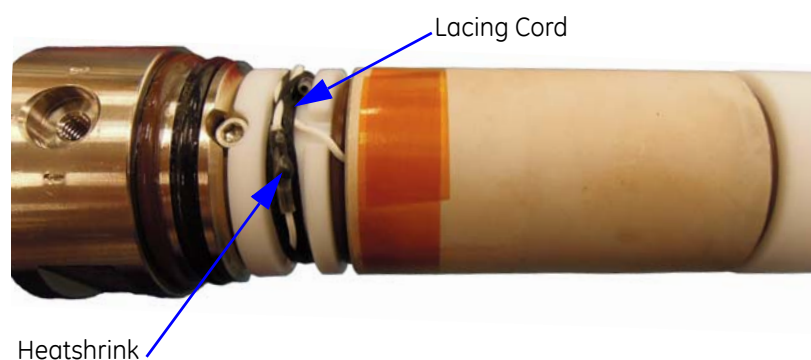

Figure 5-13 Transmitter Crystal Wiring Details
- The Tx Crystal (item 51).
- The three O-Rings (item 46) and two O-Rings (item 45) fitted around the Transmitter Crystal (item 51).
- The Sonde Main Harness (item 53) top connector.
- 13 Disconnect the crystal wiring. Remove any lacing cord securing the wiring and the Heatshrink covering the wire connections. See Figure 5-13.
- 15 Carefully remove the items from the 'Transmitter' part of the Tx Short and Piston Mandrel (item 19) without damaging the wires in the following order:
- i. O-Ring (item 46)
- ii. Tx Crystal Filler (item 7)
- iii. Two O-Rings (items 46 & 45)
- iv. Tx Crystal (item 51)
- v. Two O-Rings (items 45 & 46)
- vi. Tx Crystal Hanger (item 6)
- 16 Check and discard a cracked Tx Crystal (item 51), O-Rings and/or any other damaged component(s). Where a wire has become free of the Tx Crystal, remove all the old bonding before attaching.
- 17 To remove the Sonde Main Harness (item 52) top connector:
- 12 Install and grease (*P/N: LOR101*) the O-Ring (*item 47*) up against the Tx Crystal Filler (*item 7*).
- 13 Position heatshrink over the Tx Crystal wires. Solder (*HMP*) the Tx Crystal wires to the Sonde Main Harness (*item 52*) wires. Clean thoroughly. Install the Heatshrink over the joints using a suitable Heat Gun.
- 14 Tuck and tie the wires neatly into the wire channel of the Tx Crystal Hanger (*item 6*) with suitable nylon string. Make sure the wires are flush to the lip of the filler or wires may shear when the Tx Can (*item 2*) is installed, see *Figure 5-13*. Remove the tape around the Tx Crystal when wiring is complete to prevent the Tx Can catching on the tape on installation.